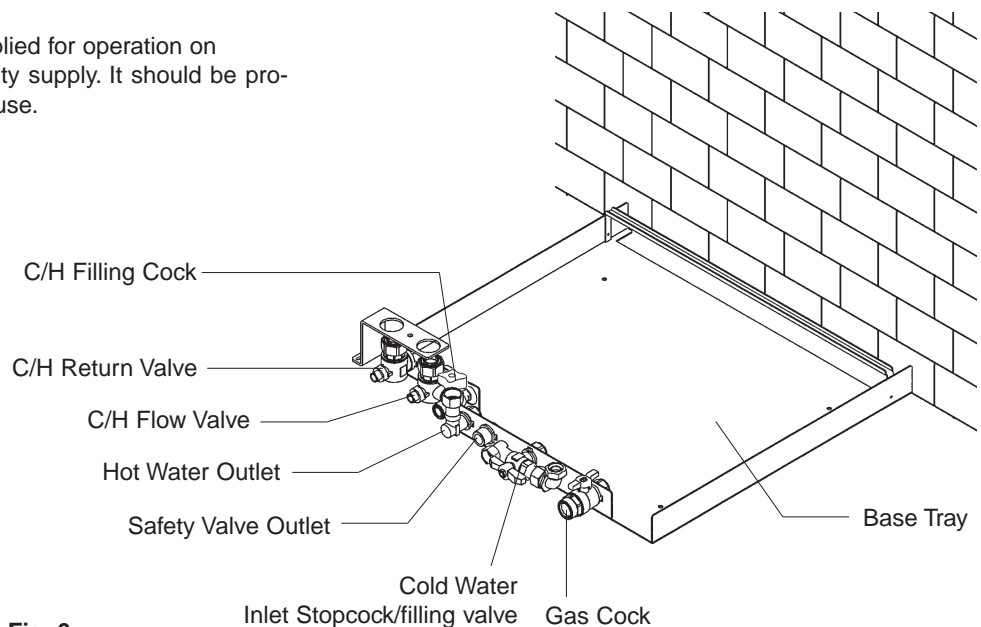

Fig. 6
To remove the base plate from the appliance, push to release the control panel door, locate the small tool inside and undo the two screws securing the front panel to the appliance and remove. Loosen and undo the Central heating flow and return unions, cold water inlet union, hot water outlet union, gas union and safety valve union. See figs 6 & 10.
**5.3.1** The appliance is floor standing. Place the base plate on a smooth firm and level surface. The back of the base tray can be pushed flush against the back wall if necessary (this will still allow piping behind the appliance see figs 6 & 11). Special floor protection is not required and the floor must be capable of supporting the weight of the appliance See section 3..
**5.3.6** Figs. 6 and 15 show the locations of the fittings.